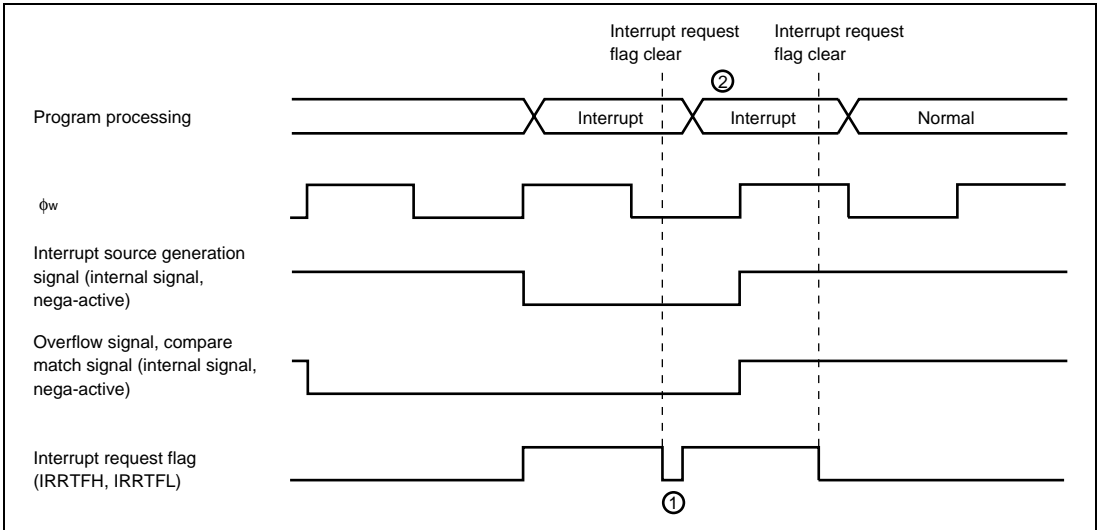

Figure 9.6 Clear Interrupt Request Flag when Interrupt Source Generation Signal is Valid
Clear Timer FH, Timer FL Interrupt Request Flags (IRRTFH, IRRTFL), Timer Overflow Flags H, L (OVFH, OVFL), and Compare Match Flags H, L (CMFH, CMFL): When $\phi_W/4$ is selected as the internal clock, “Interrupt source generation signal” will be operated with ϕ_W and the signal will be outputted with ϕ_W width. And, “Overflow signal” and “Compare match signal” are controlled with 2 cycles of ϕ_W signals. Those signals are outputted with 2 cycles width of ϕ_W (figure 9.6)
In active (high-speed, medium-speed) mode, even if you cleared interrupt request flag during the term of validity of “Interrupt source generation signal”, same interrupt request flag is set. (1 in figure 9.6) And, the timer overflow flag and compare match flag cannot be cleared during the term of validity of “Overflow signal” and “Compare match signal”.
For interrupt request flag is set right after interrupt request is cleared, interrupt process to one time timer FH, timer FL interrupt might be repeated. (2 in figure 9.6) Therefore, to definitely clear interrupt request flag in active (high-speed, medium-speed) mode, clear should be processed after the time that calculated with below (1) formula. And, to definitely clear timer overflow flag and compare match flag, clear should be processed after read timer control status register F (TCSR) after the time that calculated with below (1) formula.